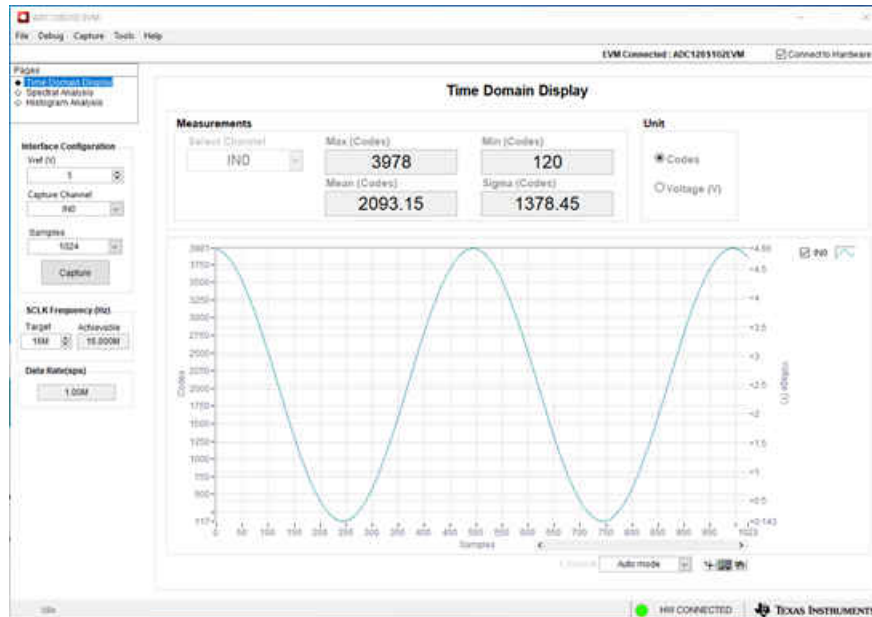

Figure 3-2. Time Domain Display
The time domain display page (as shown in Figure 3-2) displays the data captured in the time domain. Data are displayed in both codes or voltage, based on the voltage selected in the Vref (V) drop down.